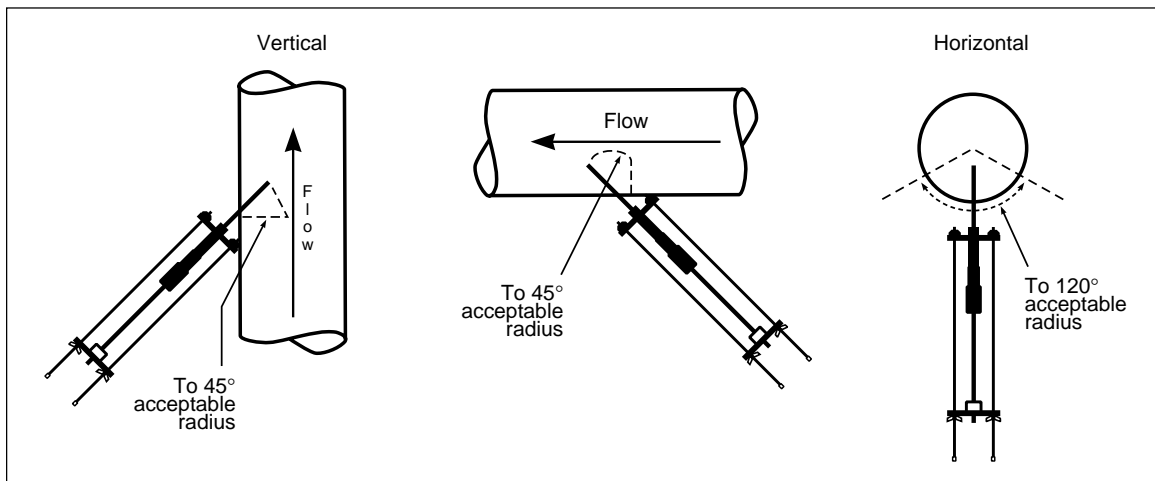

Figure 5 — Proper quill orientation
1. Figure 5 illustrates acceptable mounting positions for vertical and horizontal flow applications. Use only the bottom 120° of the pipe cross section so the unit injects upward into the flow if possible. For vertical applications, make sure the unit is angled upward. Installation on pipes with downward flow is not recommended.